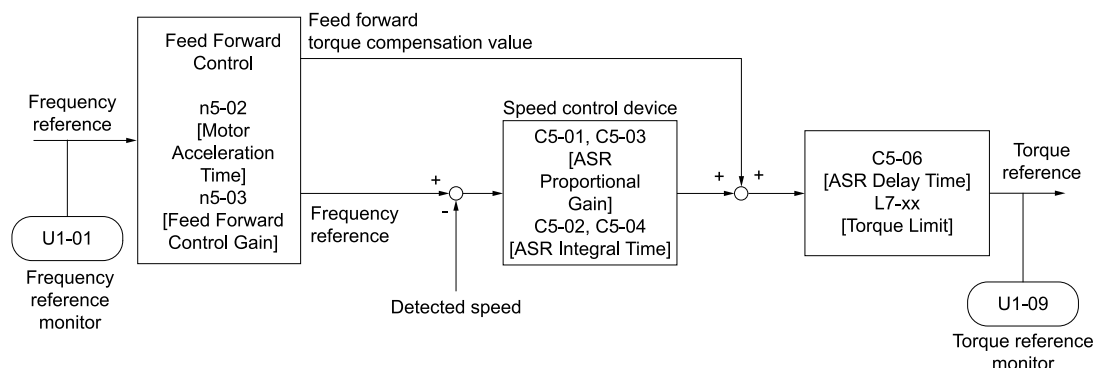

Figure 2.124 Configure Feed Forward Control
Increase the values set in *C5-01* and *C5-03* [ASR Proportional Gain] to apply feed forward control to machines that have low rigidity and are possible to have hunting and vibration or to machines that have a large quantity of inertia. Refer to Figure 2.124 for more information about parameters related to feed forward control.
- If you cannot do Inertia Tuning, refer to Figure 2.124 and set the parameters related to feed forward control individually.